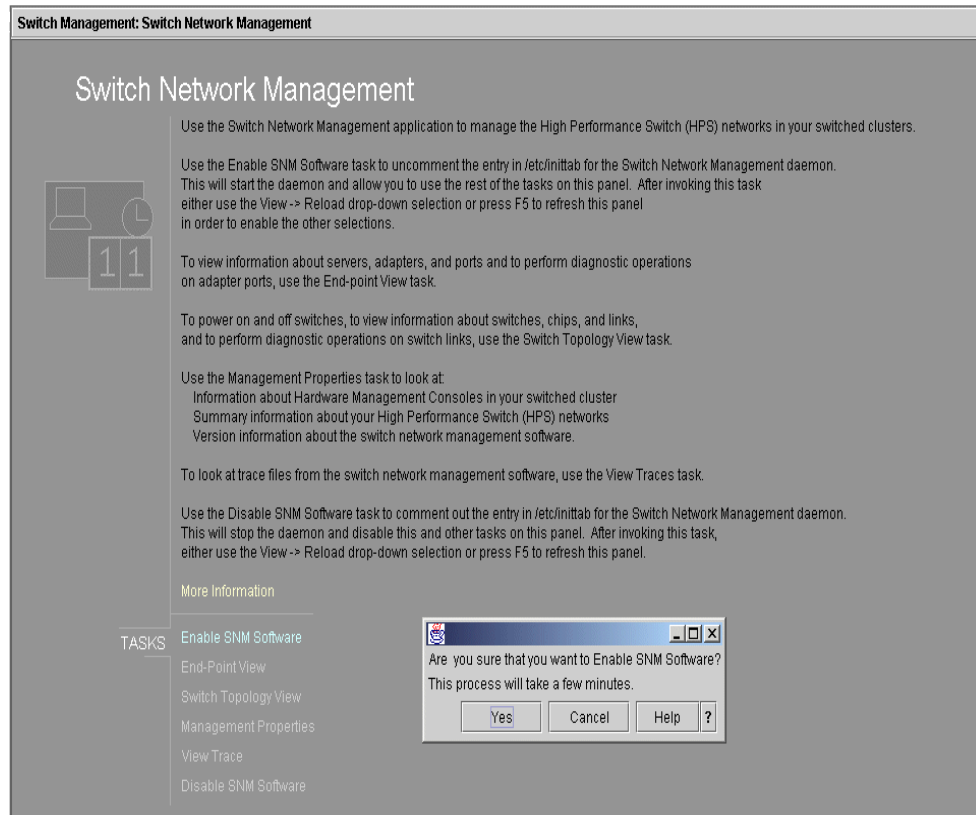

Figure 4-10 Enable the SNM Software
- b. Select **Enable the SNM Software**. Figure 4-10 on page 165 is displayed.